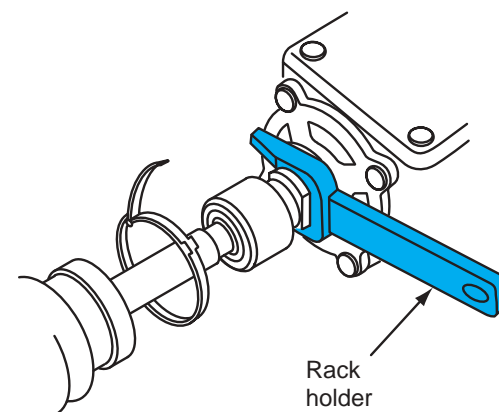

Figure 13-11 Installing the special rack holding tool between the actuator housing and the stop washer.
5. Place the flat side of the rack holding tool toward the actuator housing and drive the special rack holding tool between the actuator housing and the stop washer with a soft hammer (Figure 13-11).